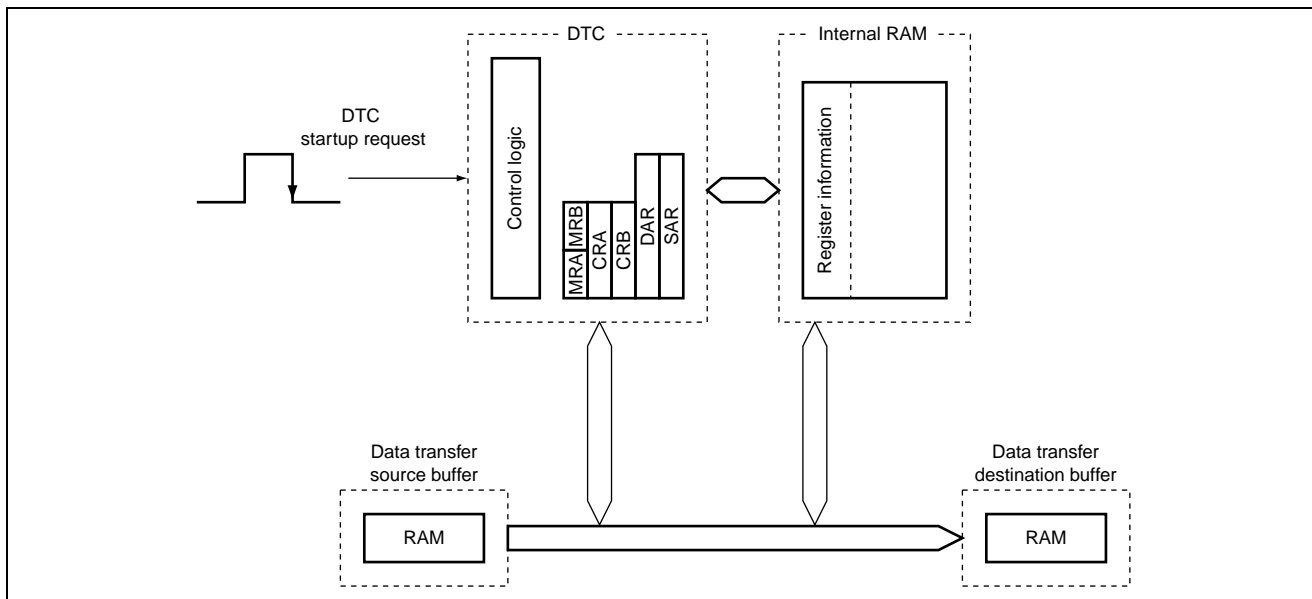

Figure 2 Block Diagram of Data Transfer Started up by Software
- A. The block diagram of DTC to be used by this sample task is shown in figure 2.